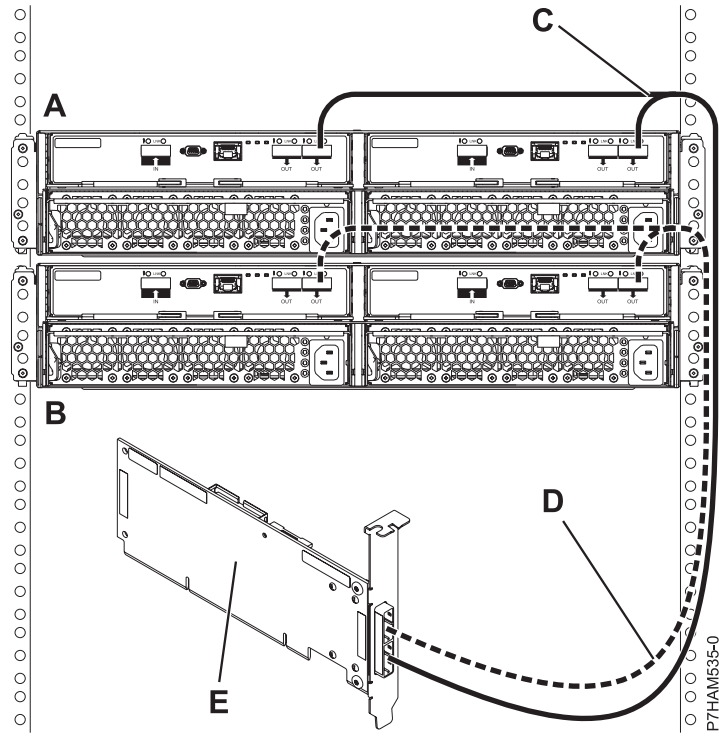

Figure 36. Mode 1 connection of two 58/87 disk drive enclosures by using YO cables to a single SAS adapter
9. Perform the mode 1 connection of two 58/87 disk drive enclosures (**A and B**) by using YO cables (**C and D**) to a single SAS adapter (**E**) as shown in Figure 36 on page 67.